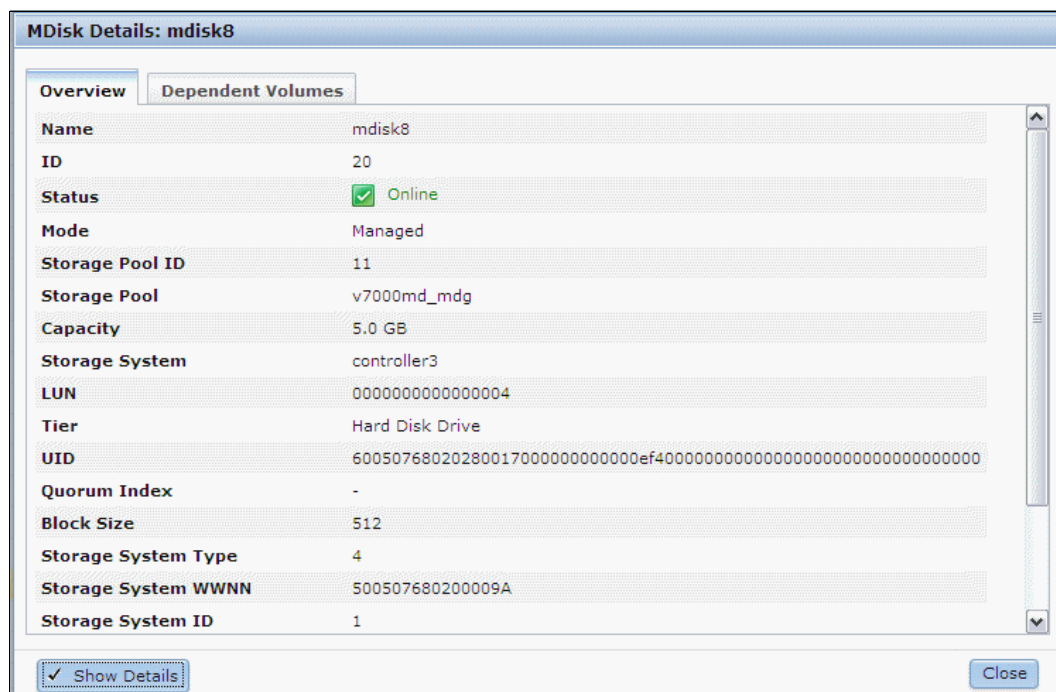

Figure 3-12 Spectrum Virtualize MDisk Details for Storwize volumes
- On the Spectrum Virtualize side, review the MDisk details (see Figure 3-12) and compare the MDisk UID field with the Storwize Volume UID. The first 32 bits should be the same.